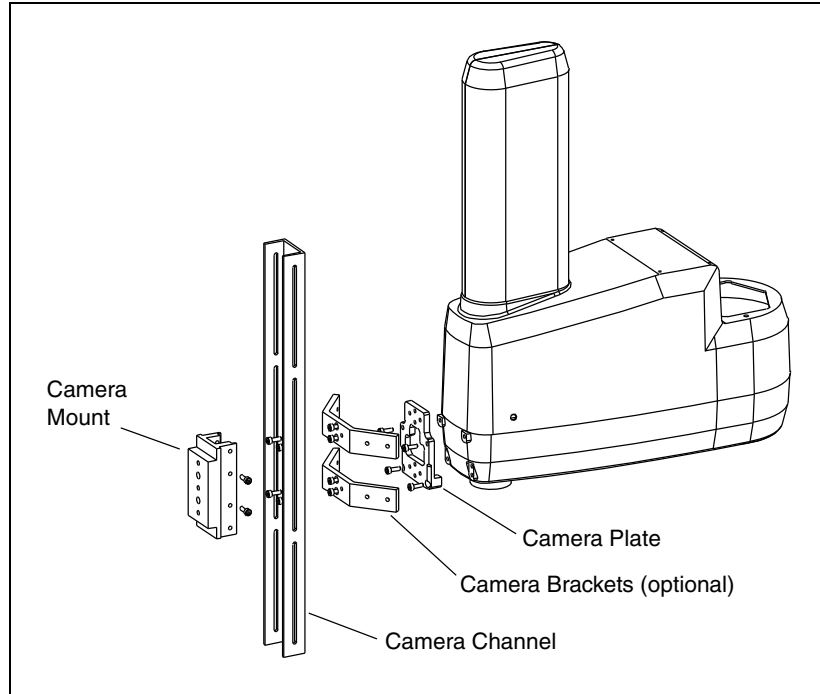

Figure 7-14. Mounting a Camera on the Robot
1. Install the camera plate to the outer link with four M5 x 12 mm screws. See Figure 7-14. as you perform this procedure.